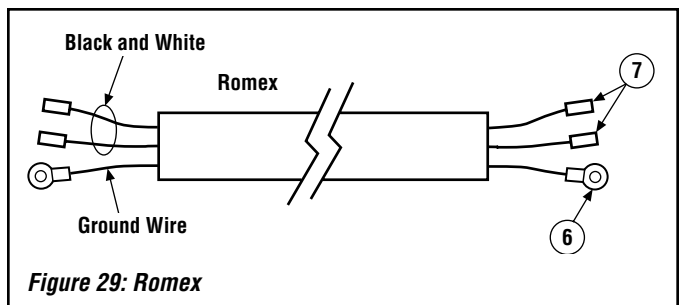

Figure 29: Romex
- Refer to *Figure 29 on Page 23* and install the electrical hardware on the ends of the Romex wiring. Male terminals on the Black and White wires, and ring terminals on the ground wire.